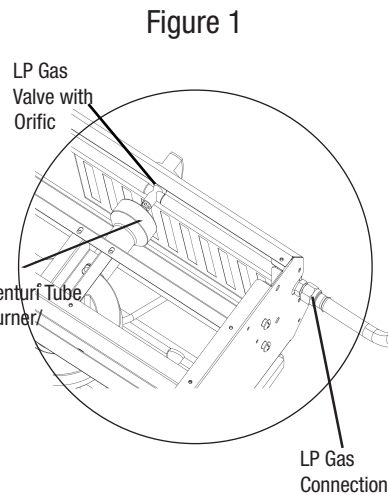

Figure 1
- 4 Please refer to diagram for proper installation (Figure 1)
- 5 Spoon several drops of solution, or use a squirt bottle, at all "X" locations (Figures 1 and 3)